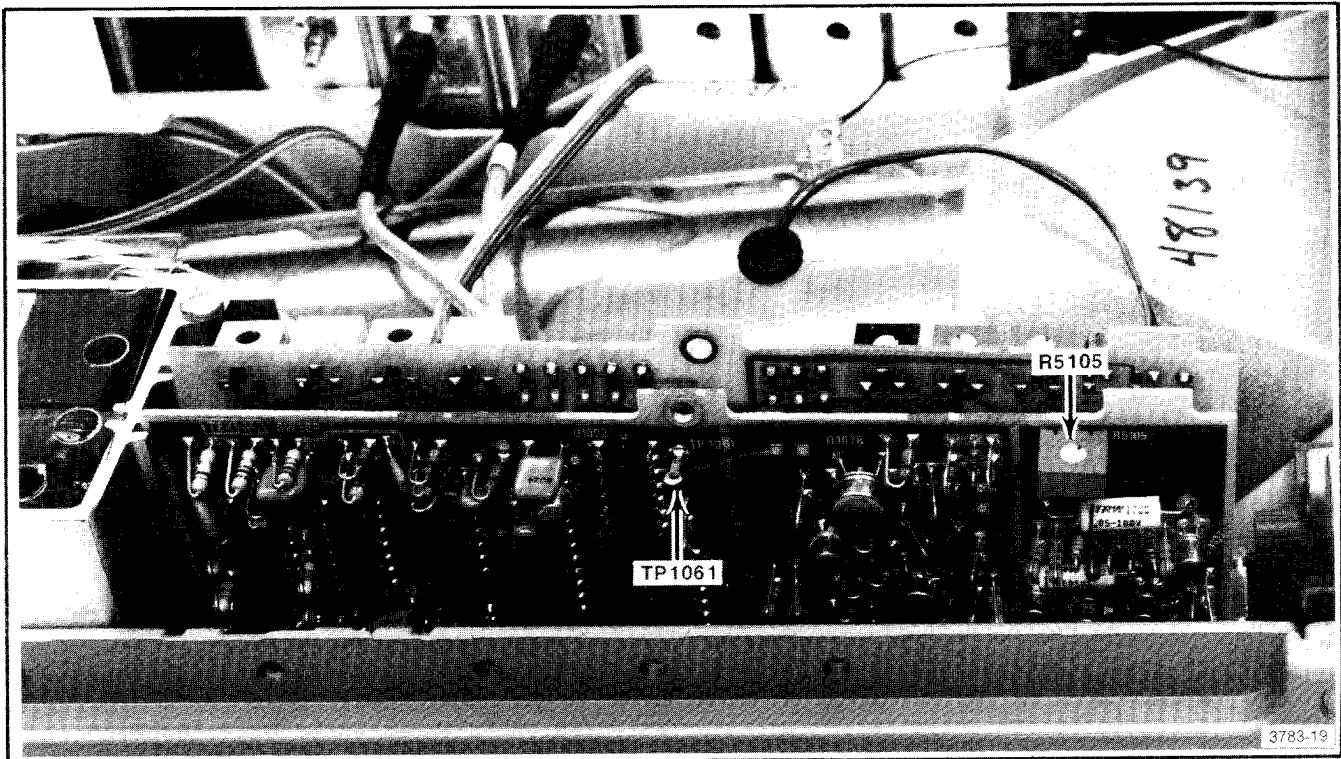

Fig. 3-29. Location of timing adjustment R5105 and TP1061 on Sweep board.
c. Adjust Sweep Timing, R5105 (see Fig. 3-29), for 1 marker/division. (Use POSITION adjustments to align markers.)